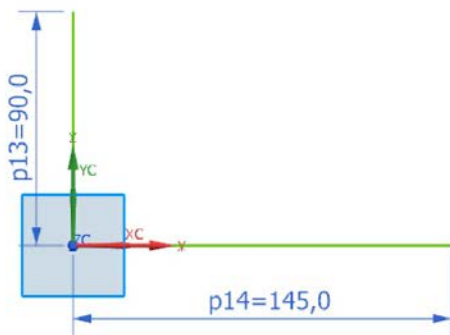

Figure 5-51 Open sketch for the base feature
2. Invoke the sketching environment by using the YC-ZC plane and draw an open sketch, as shown in Figure 5-51.